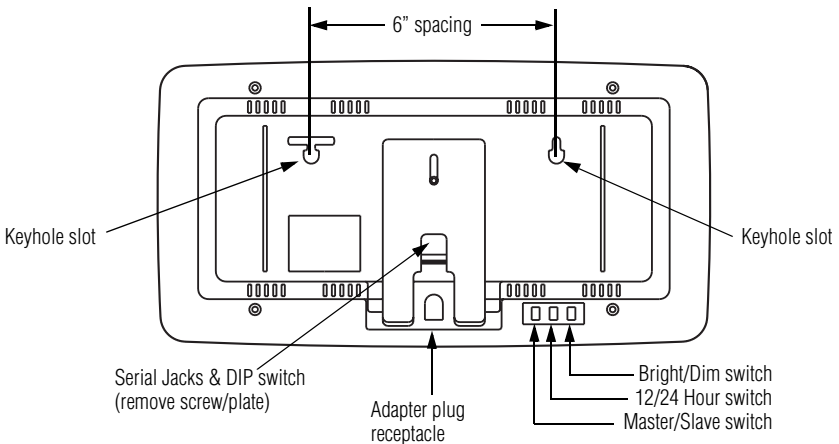

Figure 1: Serial Clock—Rear Panel
The clock is equipped with a small AC adapter with an 18-foot power cord. Connect the power cord to the adapter plug receptacle on the backside of the clock (See Figure 1: Serial Clock—Rear Panel) **before** plugging the adapter into a standard 120V wall outlet.
The master/slave switch is located on the back of the clock, next to the 12/24 hour switch (See Figure 1: Serial Clock—Rear Panel).
To set the hours, press the HOUR button until the desired number is displayed. There is no AM/PM option. If the clock is in 12-hour mode, 1-12 will be the only hours displayed. If the clock is in 24-hour mode, 0-23 will be the hours displayed. Use the 12/24 Hour Switch on the back of the clock (See Figure 1: Serial Clock—Rear Panel on page 1) to set the clock to either 12-hour or 24-hour mode.
A bright/dim switch, located on the back of the clock (See Figure 1: Serial Clock—Rear Panel on page 1), allows you to switch between a bright or a dim display mode to suit your preference.
1. Locate the keyhole slots on the back of the clock, at either end. The slots are placed six inches apart (See Figure 1: Serial Clock—Rear Panel on page 1).
1. Remove the screw and plate on the backside of the clock (See Figure 1: Serial Clock—Rear Panel on page 1).